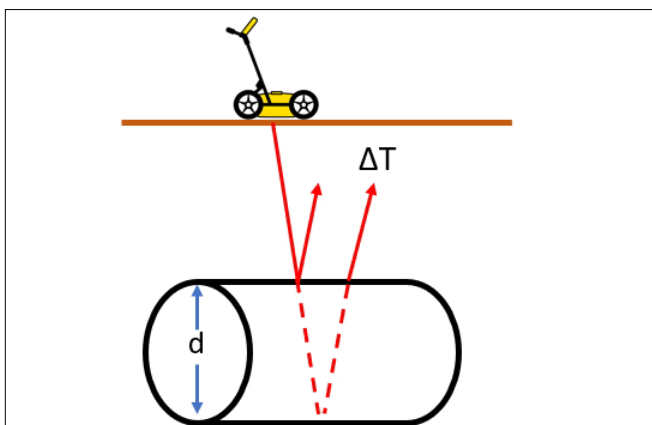

Figure 1: Schematic representation of the change in time, ΔT , measured between the top and bottom reflections from the pipe with diameter, d .
2. You must get a reflection from the top and bottom of pipe (Figure 1) – even if a pipe is non-metallic, it doesn't necessarily mean you will get a reflection from the bottom. Reasons for this include the pipe diameter being too small (so the travel time within the pipe is too fast) or the reflection being too weak to be detected by the GPR receiver.
where ΔT is the change in time, measured between the top and bottom of the pipe (Figure 1)